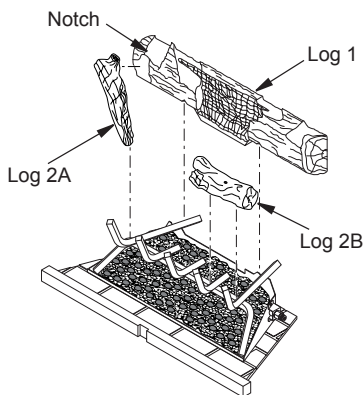

Figure 27 - Installing Logs 1, 2A and 2B
1. Place large back log (log 1) onto grate making sure notches rest over grate (see Figure 27).
2. Insert lower end of log 2A between first two grate fingers and position upper end into notch on front of log 1. See Figure 27. Place log 2B on front right side of grate as shown in Figure 27.